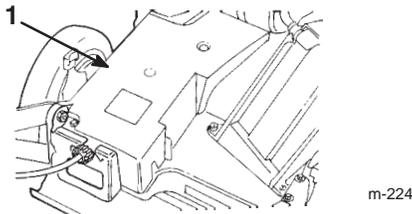

Figure 27
3. Remove the bolts that secure the belt cover to the lawn mower housing (Fig. 27).